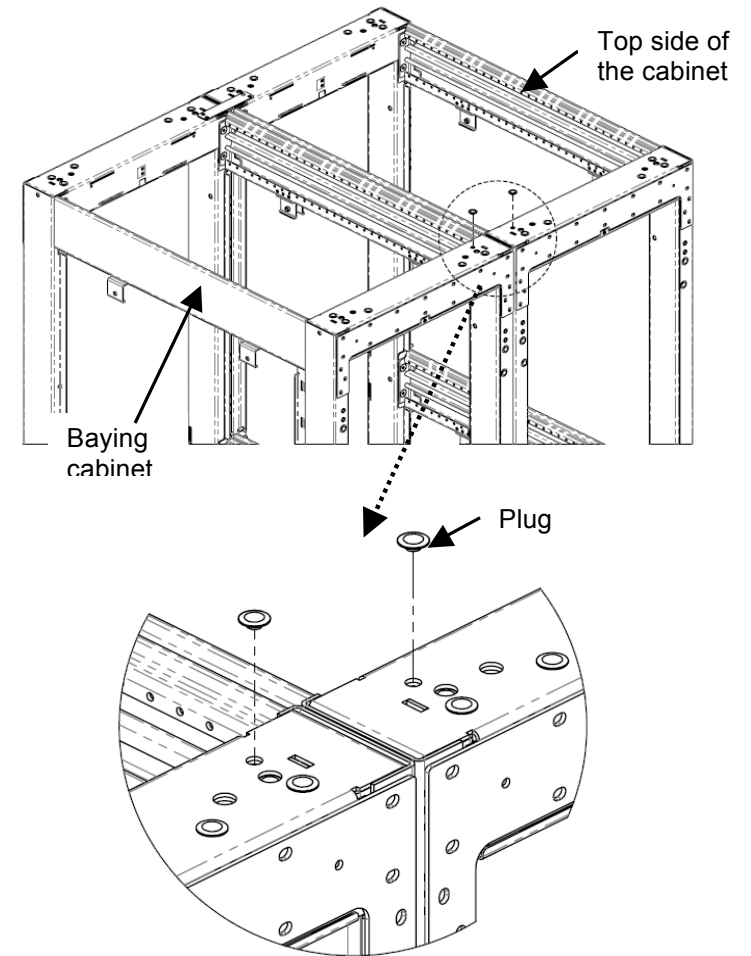

Fig. 2
1. Remove the hole plugs before installing Baying kit (Fig. 2).